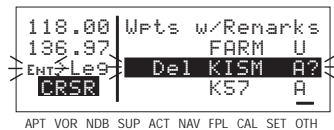

Figure 3-179
- Press **CLR**. The KLX 135A will ask if you wish to delete that remark (figure 3-179).